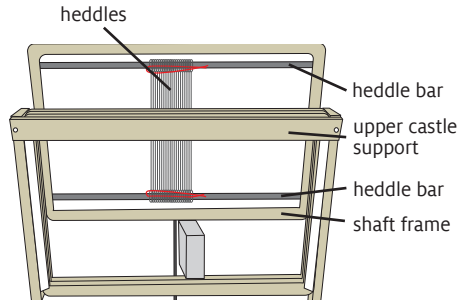

FIGURE 8: INSTALLING HEDDLE BARS
4. Lift the shaft frame closest to the front of the loom and prop it up using a book or small block of wood. The bottom of the shaft frame should be raised 3 to 4 inches (Figure 8).